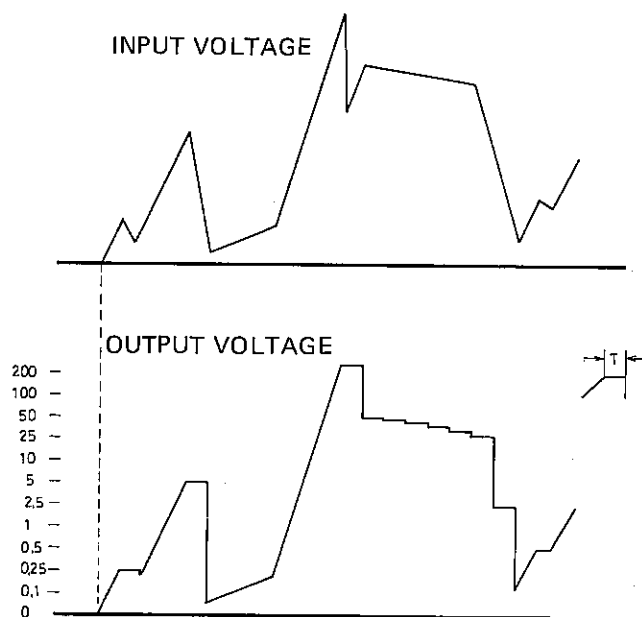

Fig. 2 Waveform for holding peak value
Accordingly, the voltage that appears at the output of A2 is proportionate to the input voltage since the amplified waveform goes further through the inversion process. After the above, the output signal of A2 is led to the peak value holder circuit (IC302/IC402) where its peak value is detected and held so as to Keep the corresponding LED glowing sufficiently long for visual observation. Once a peak value is detected, this circuit holds its output voltage at a constant level for a specific length of time (T) unless a higher voltage is applied. The value T is approximately 50 msec. and is determined by the time constant of C301 and R311. (cf. Fig. 2)